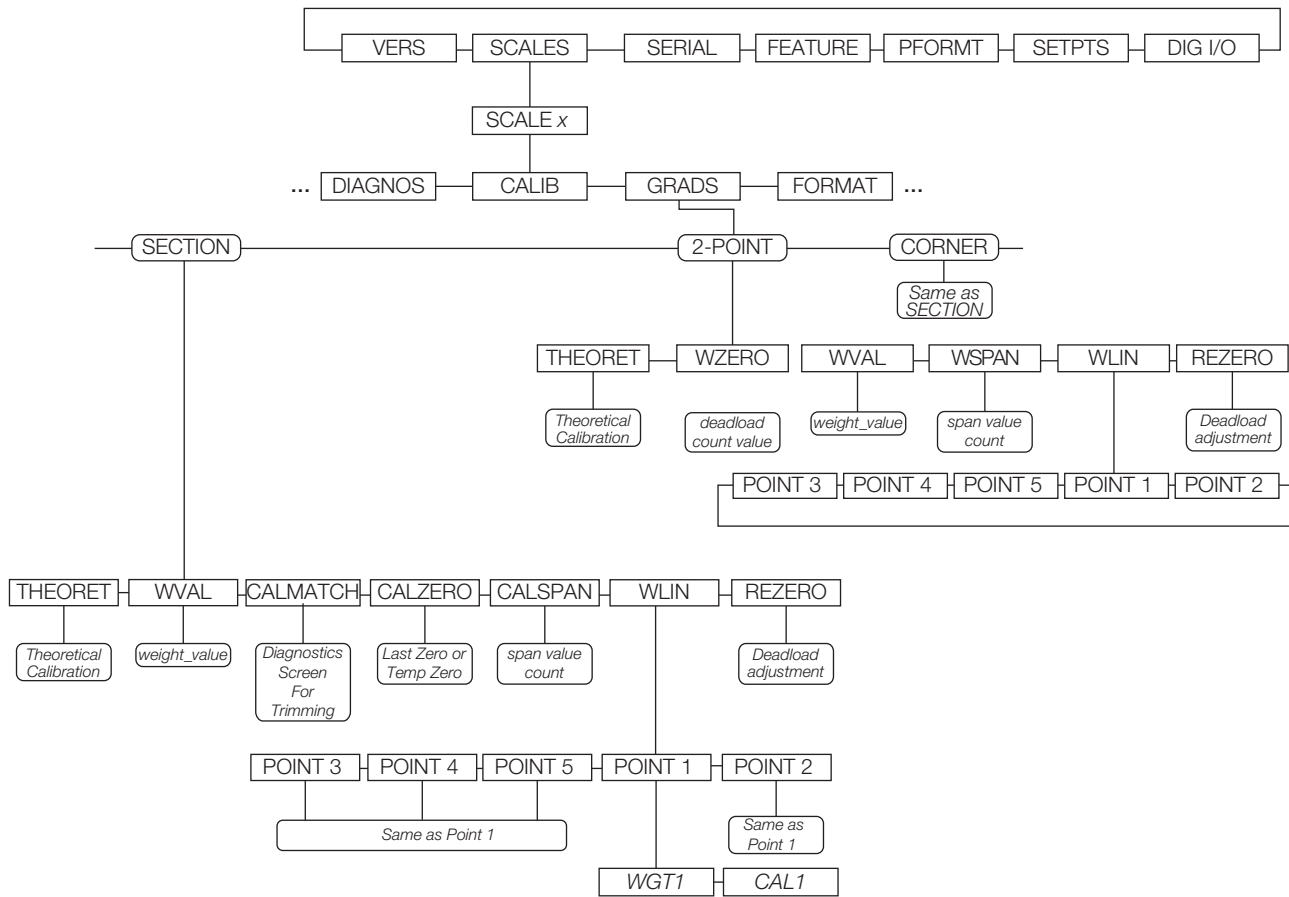

Figure 4-12. 920i Calibration Submenu
1. Ensure the scale is empty and navigate to the **Theoretical Calibration** parameter (Figure 4-12 on page 64).